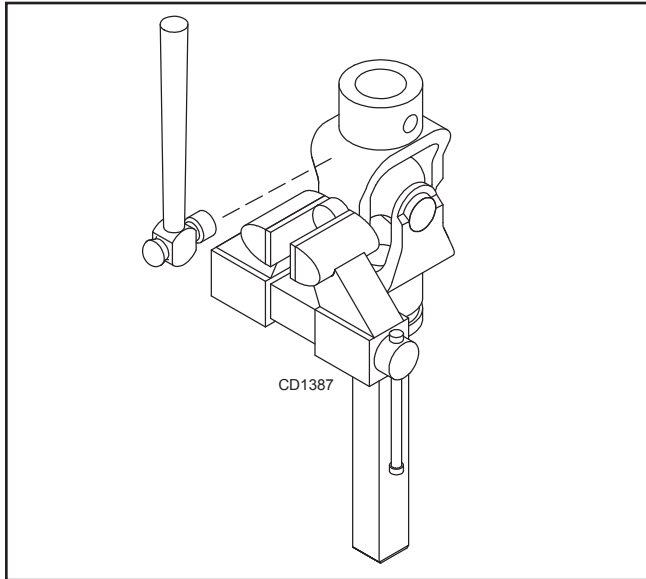

Figure 25.
3. Clamp cup in vise as shown in Figure 25 and tap on yoke to completely remove cup from yoke. Repeat Step 2 and Step 3 for opposite cup.